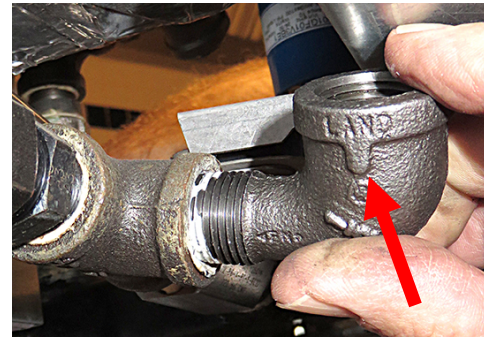

Figure 7
9. Using loctite, attach the street elbow (PN 8130165) to the "T" in the previous step (see Figure 7). Orient the street elbow with the opening towards the front of the fryer.